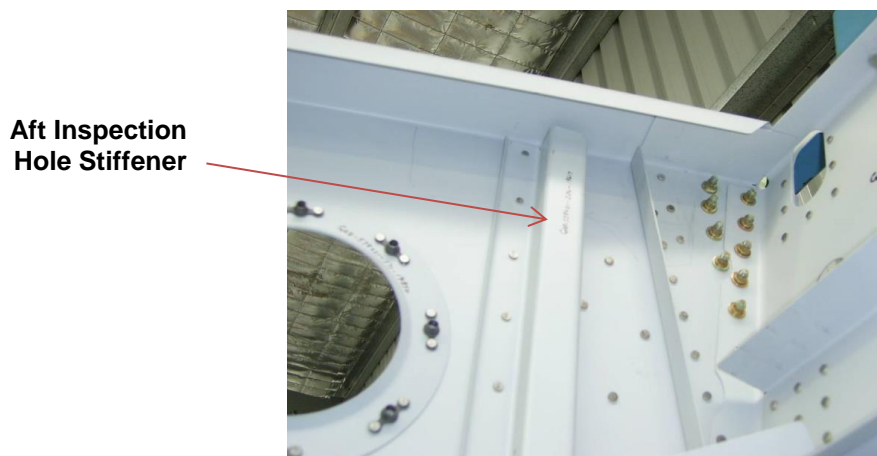

Figure 3
10. Remove the Aft Inspection Hole Stiffener in this area shown in Figure 3. Inspect for condition and retain for reinstallation if found serviceable.